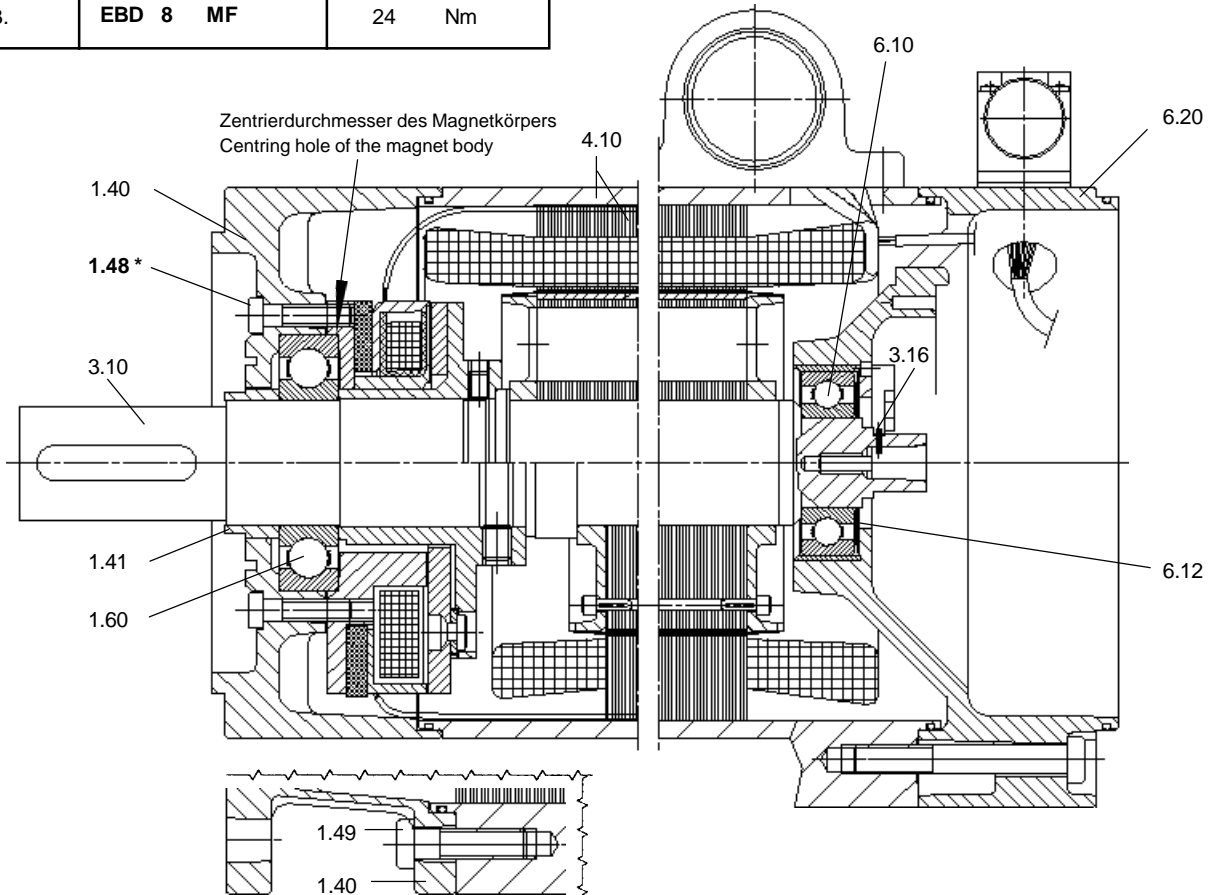

Fig. 108.1 Demontage/Montage von Motorläufer / Removing/Fitting motor rotor
- Fix magnet and D-end endshield with screws (1.48), tighten to specified torque (see Fig. 108.1) and maintain specified clearance!